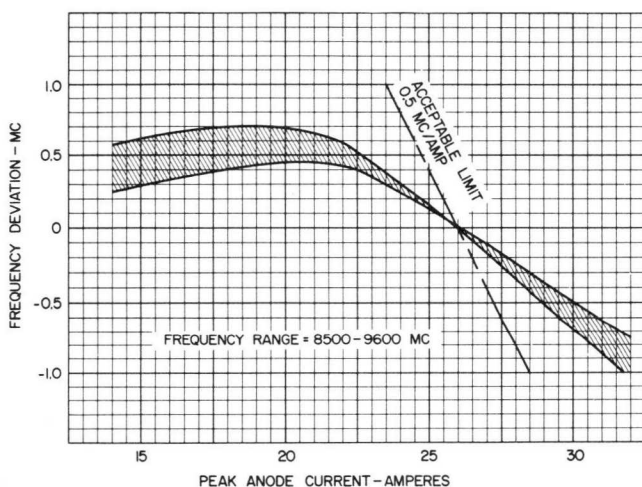

Figure 13—Typical Pushing Characteristics. Shading exemplifies typical range of variation with frequencies.
**Pushing**—The frequency of SYLVANIA high power X-band tunable magnetrons is relatively unaffected by changes in anode current. The pushing characteristic for the 7692A is shown graphically in Figure 13. The normally experienced variations due to operating frequency are indicated by the shaded areas of the curves.